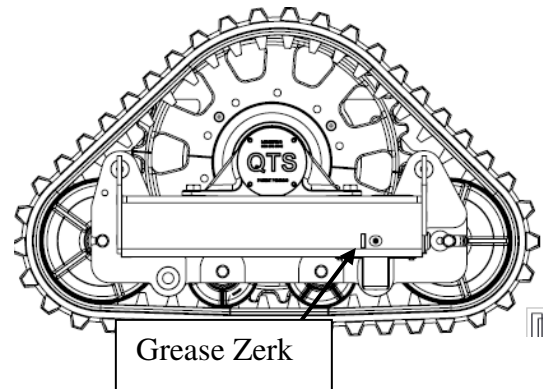

Fig. 3
2. Pump grease into the grease zerk until grease comes out of the loosened plug. This eliminates any air pockets that can cause the track to loosen. **Fig. 3**